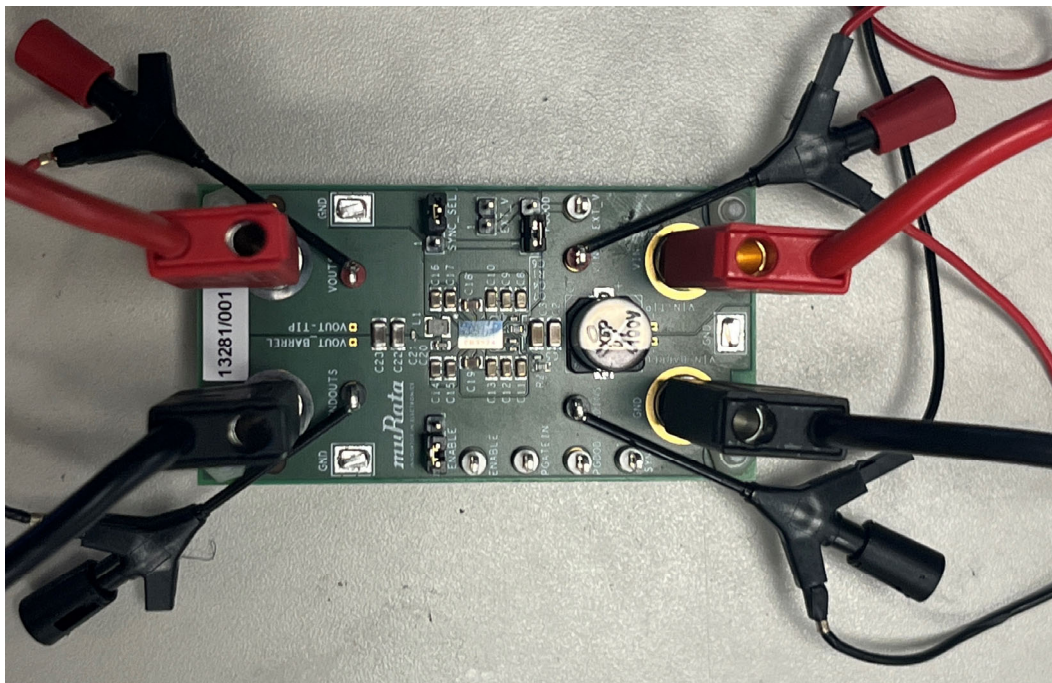
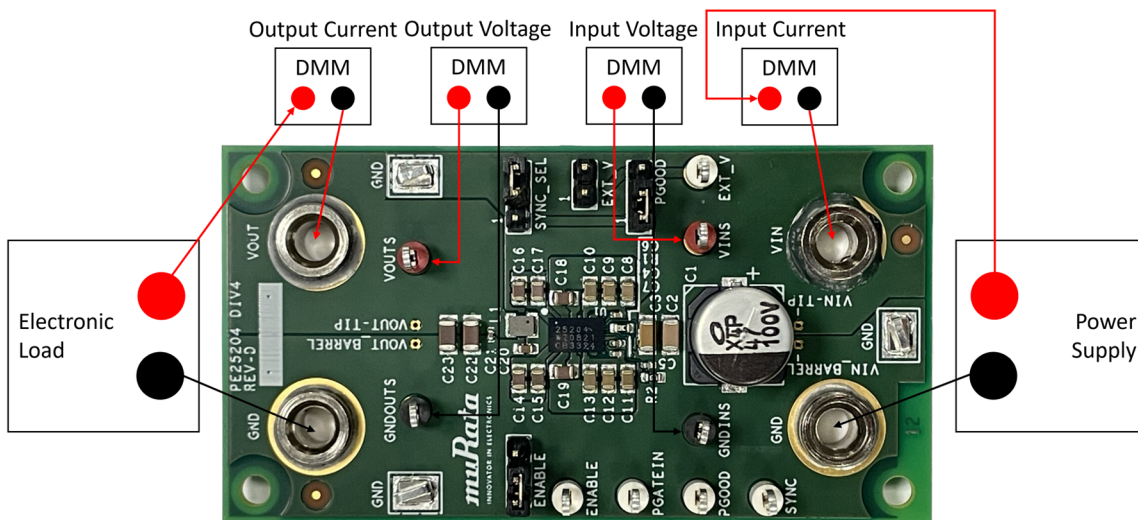

Figure 2. EVK Lead Connections
Figure 4. Voltage and Current Measurement Connections
Connect the EVK and the DC power and sense leads as shown in Figure 2.
To measure the voltage and current, connect the EVK to the equipment as shown in Figure 4.
3. Connect the DC power and sense leads to the EVK as shown in Figure 2, then connect the EVK to the power and measuring equipment as shown in Figure 4. Minimize the length of the connections.